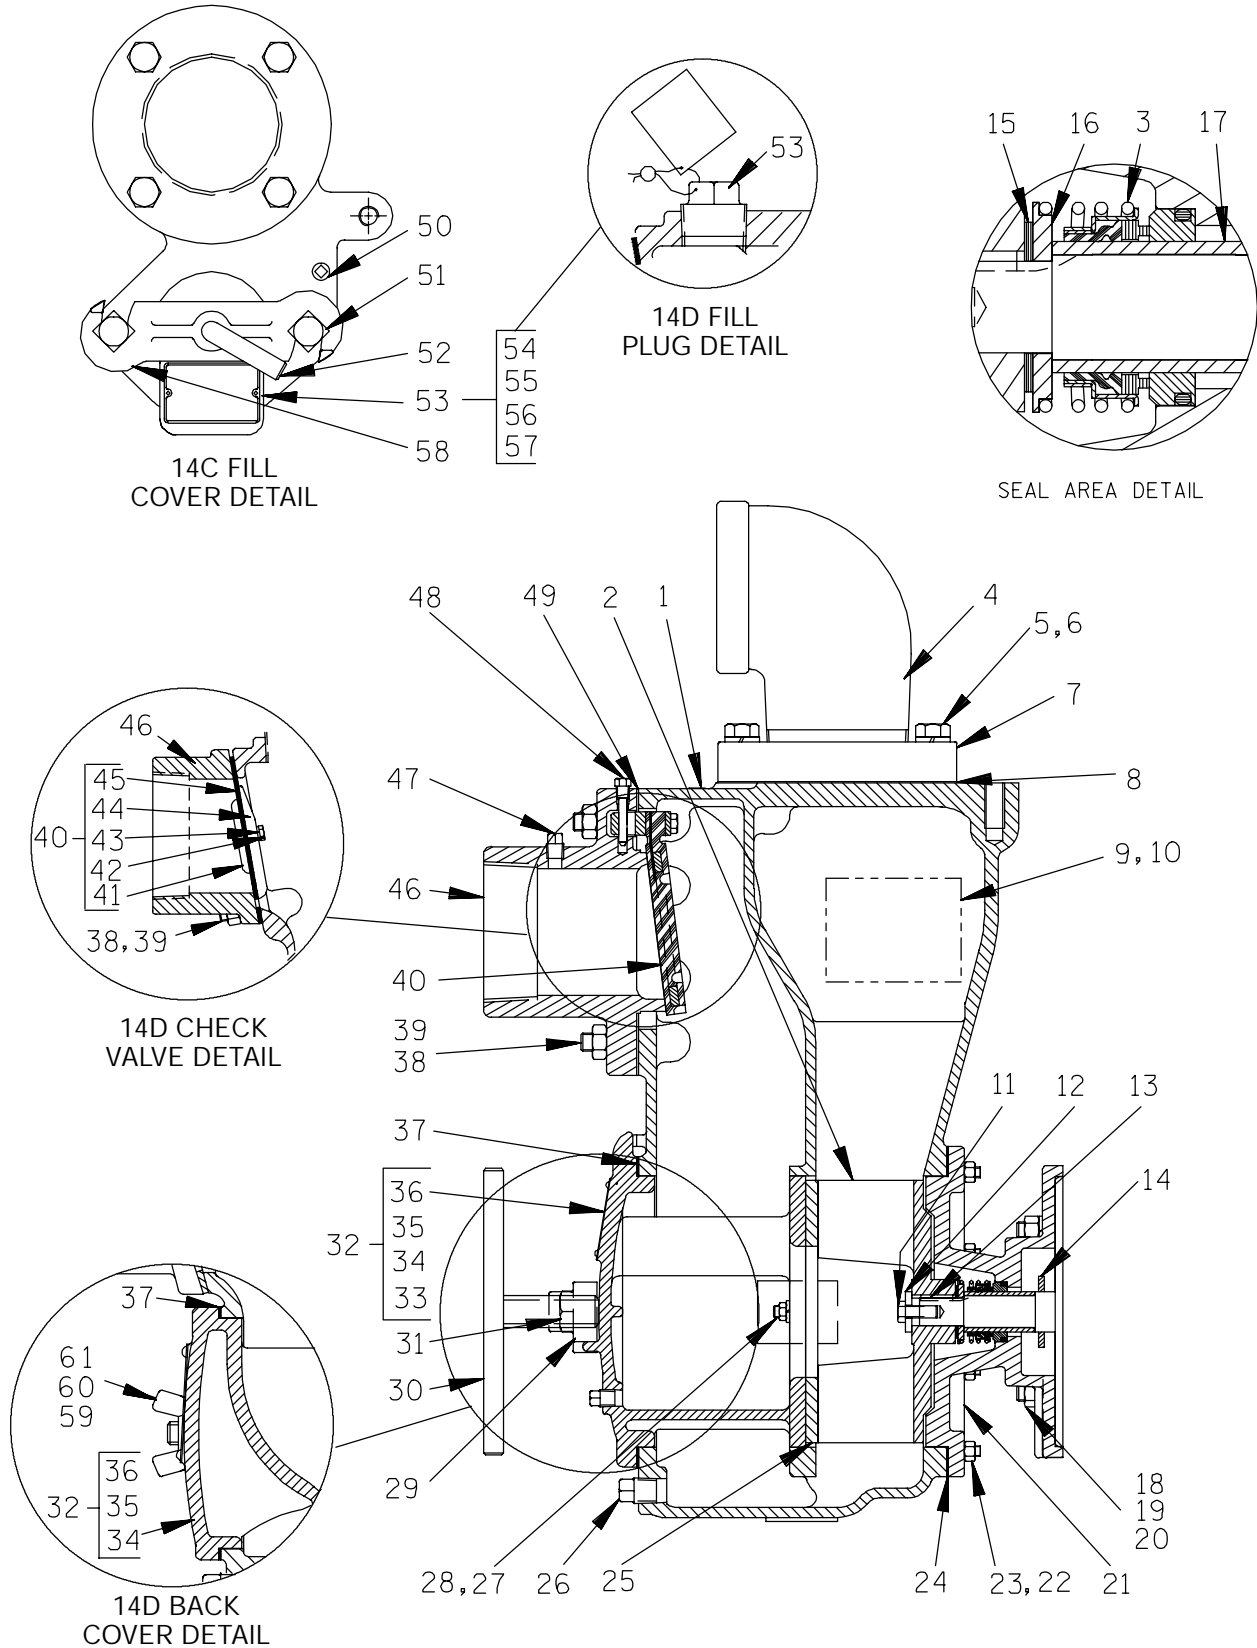
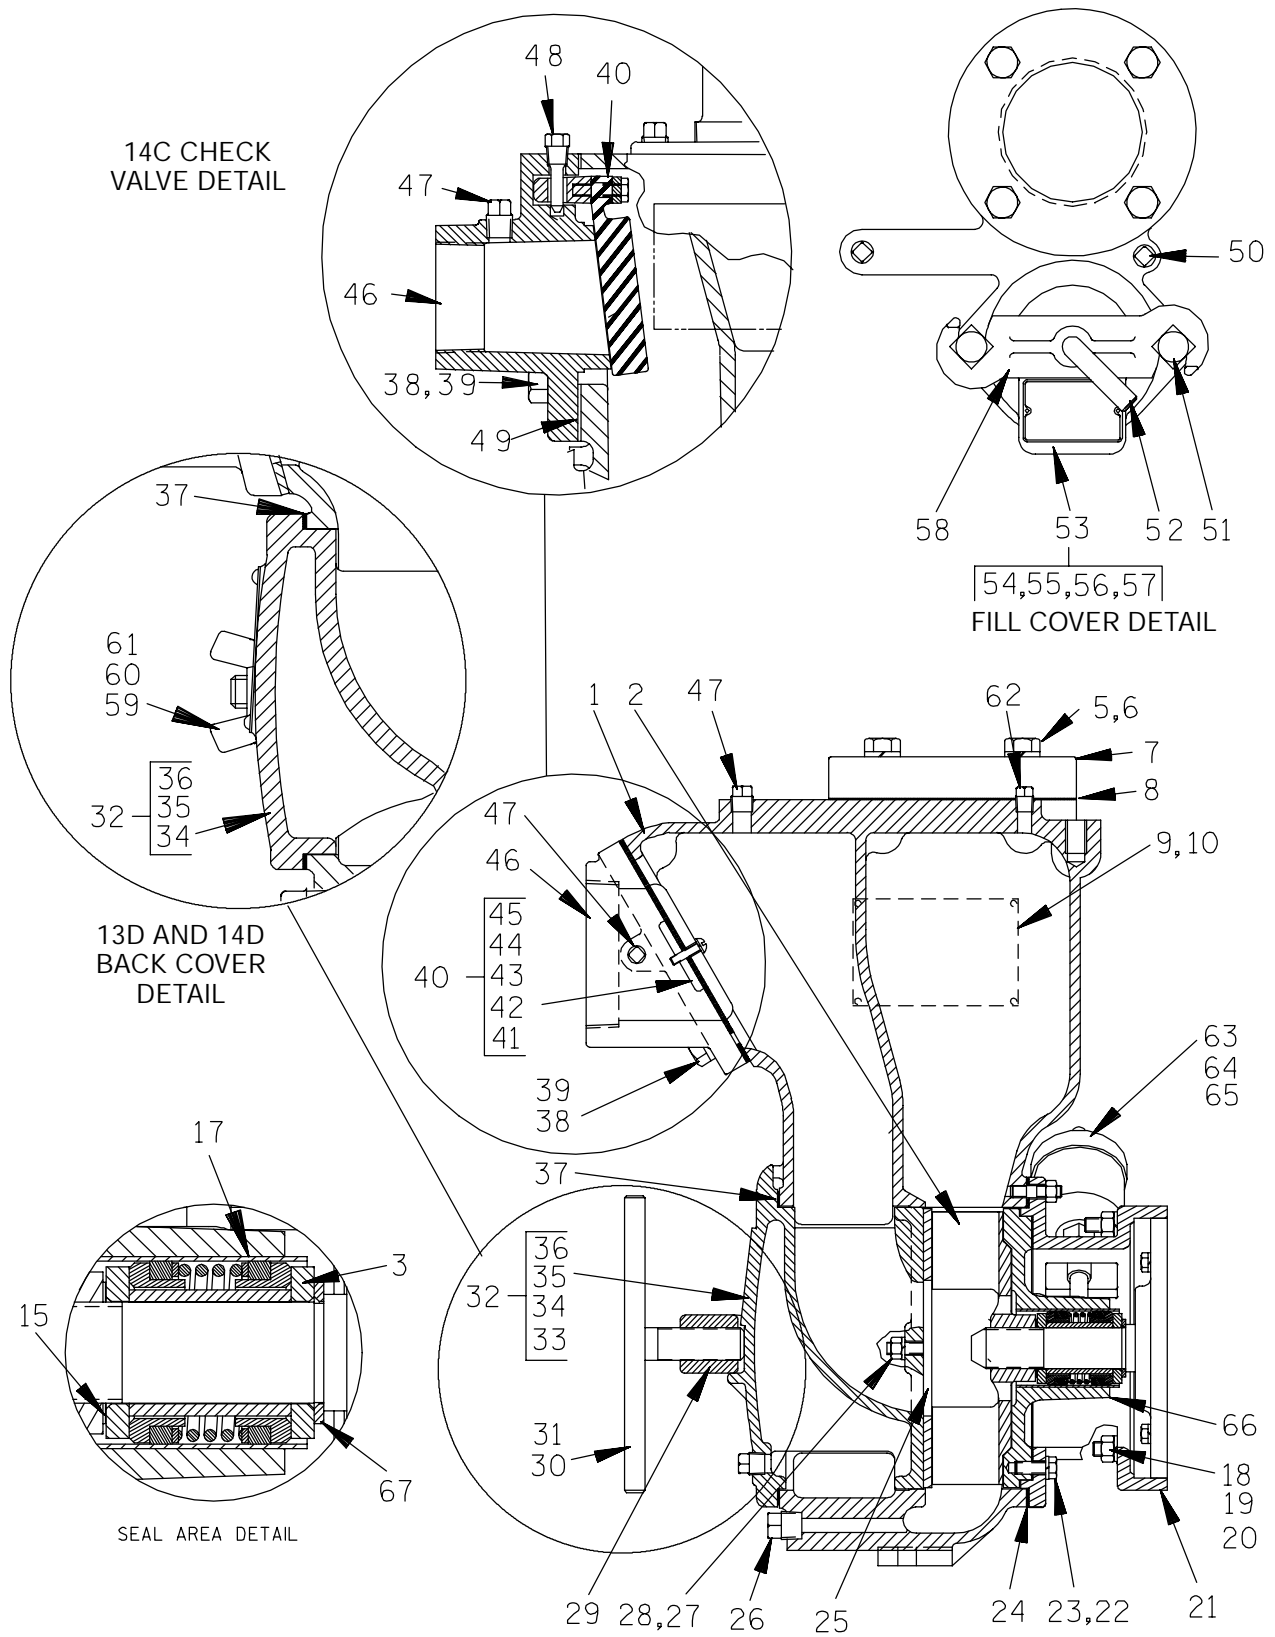

Figure C-1. Typical 14C And 14D Pump End Assembly w/Self Lubricated Mechanical Seal
Figure C-2. Typical 13D, 14A, 14C, 14D And 16D Pump End Assembly w/Grease Seal
The maintenance and repair instructions in this manual are keyed to the sectional views (Figure C-1 or C-2), and the corresponding parts identification list. Refer to the separate Parts List Manual for replacement parts.
This pump requires little service due to its rugged, minimum-maintenance design. However, if it becomes necessary to inspect or replace the wearing parts, follow these instructions which are keyed to the sectional views (see Figure C-1 or C-2) and the accompanying parts list. Unless otherwise specified, the instructions apply to either Figure C-1 or Figure C-2.
(Figure C--1 or Figure C--2)
If the pump is equipped with a grease seal, turn the cross arm on the automatic lubricating grease cup (63, Figure C-2) clockwise until it rests against the cover (see Figure C-7) before attempting to remove the impeller (2). This will prevent the grease